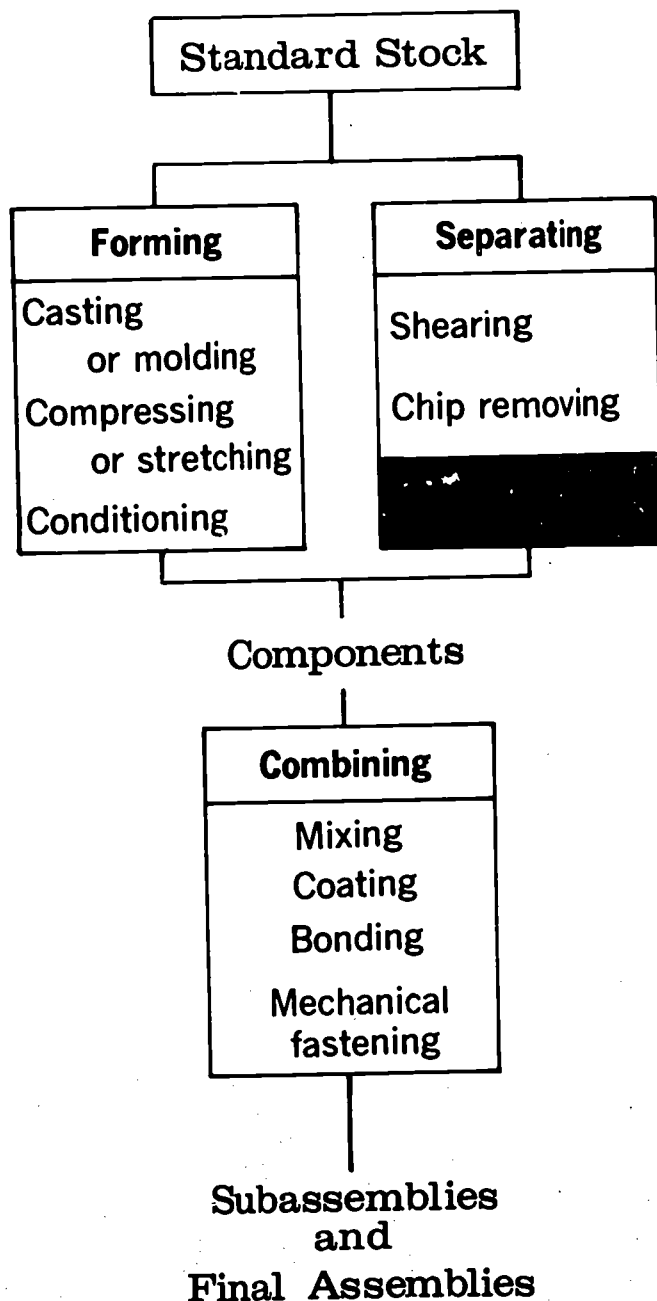

Fig. 56-1. Separating by other processes, in the shaded area above, is discussed in this reading.
In the last two readings, you have learned about two basic ways to separate standard stock. They are (1) *shearing*, and (2) *chip removing*. In this reading, you will learn about some other ways to separate standard stock, Fig. 56-1. They are sometimes called *other processes*, or *nontraditional techniques*. The ideas behind them are old, but some of the tools and their uses are very new.